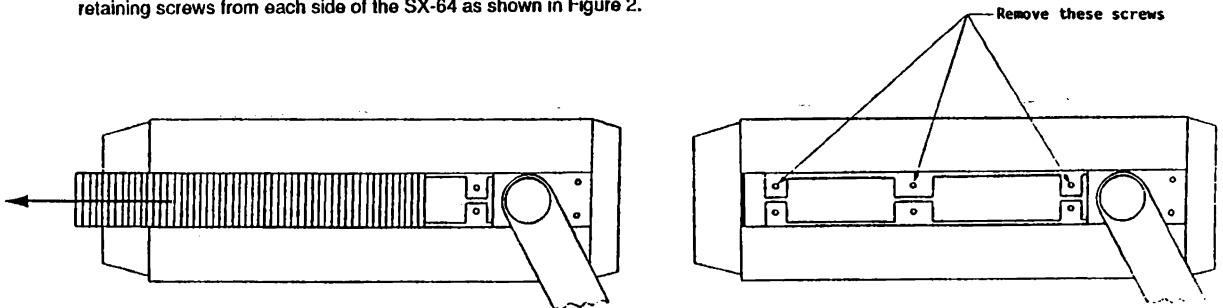

Figure 2: SIDE RAIL AND SCREW REMOVAL
7. Remove both side rails from the SX-64 by sliding them towards the rear of the computer and then remove the three top cover retaining screws from each side of the SX-64 as shown in Figure 2.